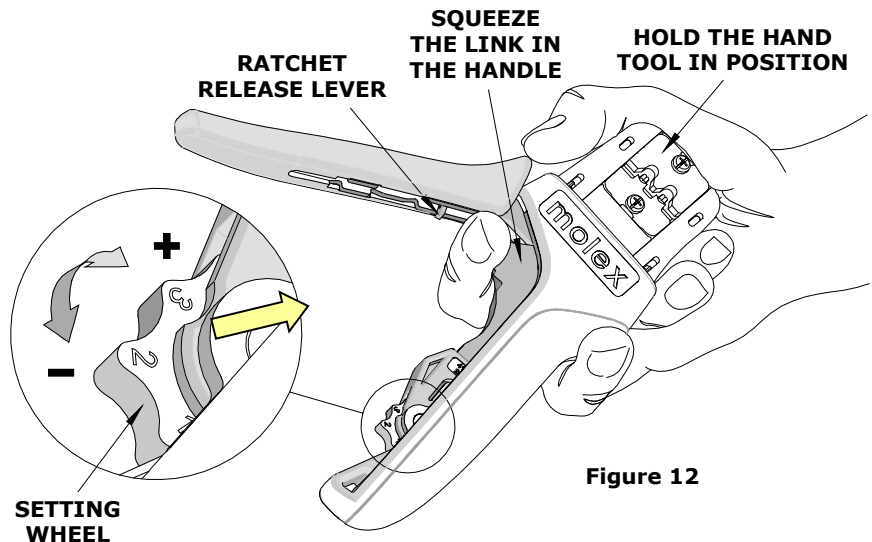

Figure 12
How to Adjust Tool Preload (See Figure 12)
1. Hold the hand tool in the palm of your hand as shown in Figure 12. Using your index finger, squeeze the link toward the top of the hand tool frame. This will release the preload adjustment wheel.
2. Rotate the setting wheel counterclockwise (CCW) to increase handle force. The numbers will display higher. To decrease handle force, rotate the setting wheel clockwise (CW).